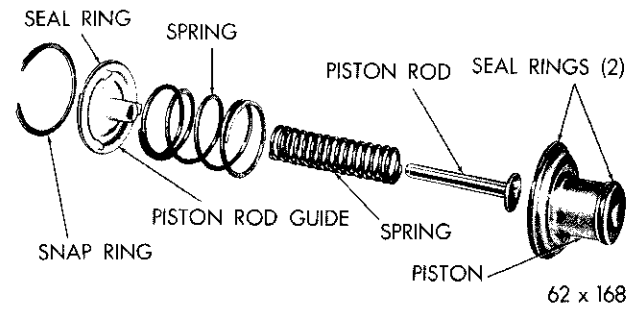

Fig. 83—Kickdown Servo (Disassembled)
Figure 83 shows a disassembled view of the kick-down servo assembly.
(1) Carefully push the servo piston into the case bore. Install the piston rod, the two springs and the guide (Fig. 83).
(2) Compress the kickdown servo springs by using engine valve spring compressor Tool C-3422, then install the snap ring.